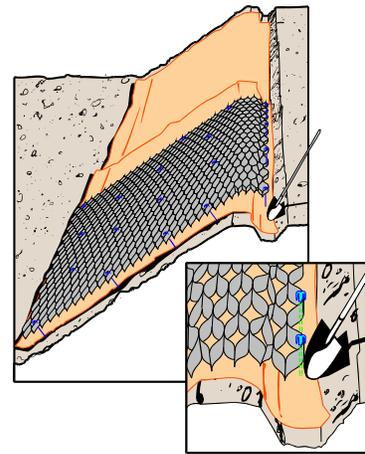

Figure 4 Placement of Geoweb® Section
- Expand the Geoweb® section down the slope to the section's specified length. Refer to Figure 4.